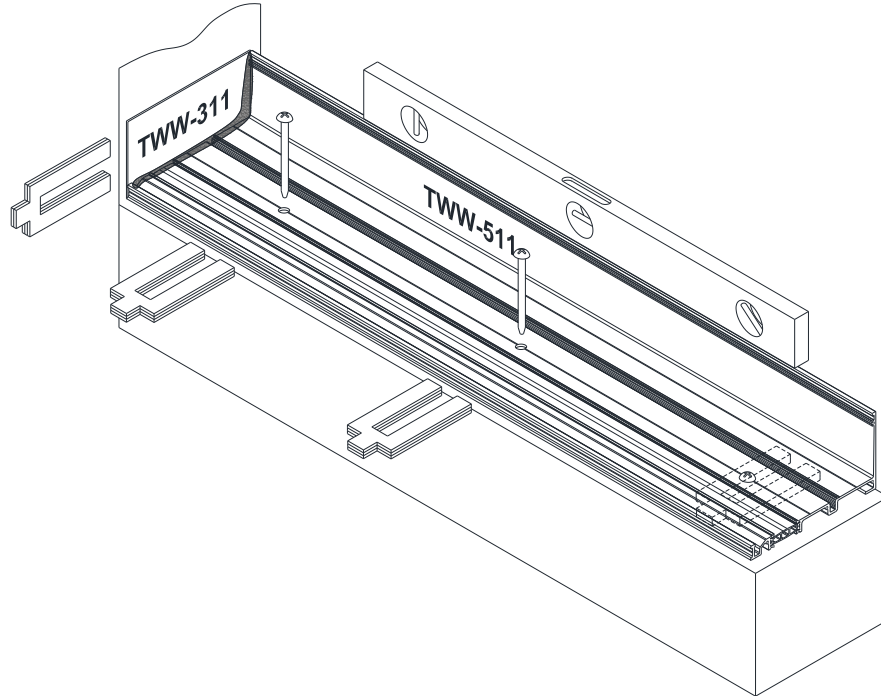

Figure 60: Sill Receptor Installation
- 17.1 Center the assembled Sill Receptor into the opening, allowing shim space at jambs. Shim to level with 1/4" of shim at highpoint, adding shims at each fastener, reference *Figure 60*.